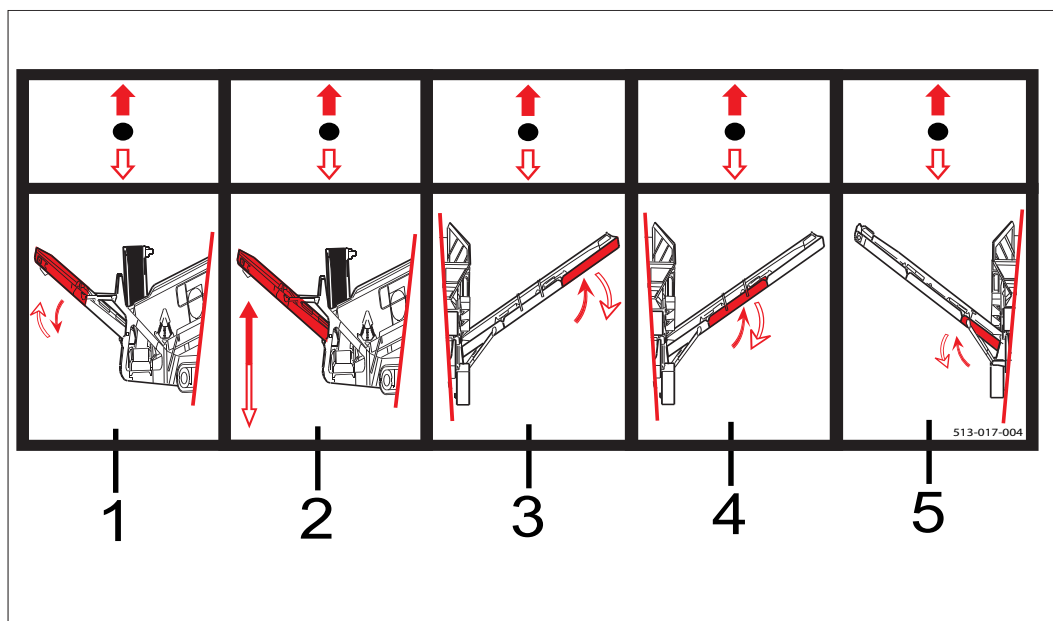

Figure 5.18 - LHS Control Bank Decal
6. Use Lever 5, (Reference: Figure 5.18) to fold the bottom section of the conveyor until it is vertical.
9. Fold the remainder of the head section into transport position (Item 1, Reference: Figure 5.18).